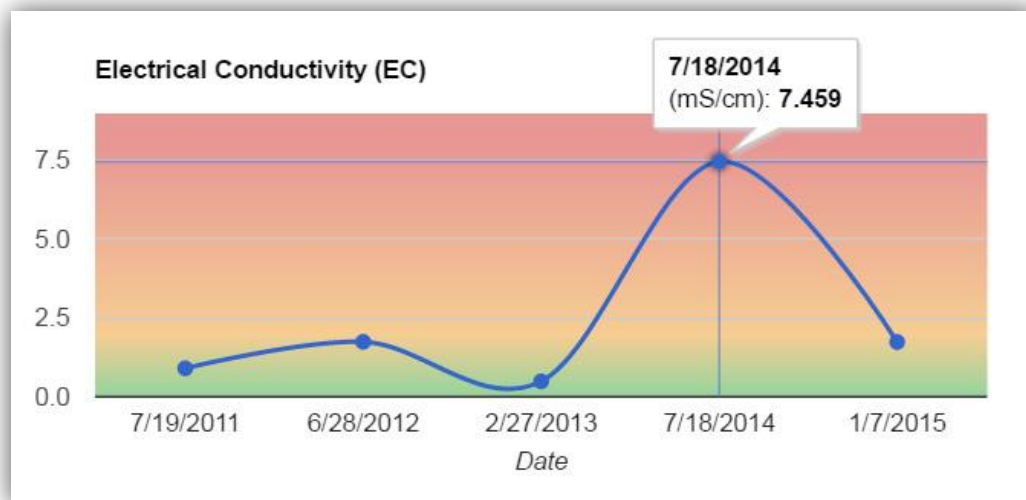

Figure 15. Temporal monitoring of EC soil indicator for a specific field
In Figure 15 above, the electrical conductivity (EC) parameter for a specific field is demonstrated as an example. Five measurement values are available (for different measurement dates), where only one of them being on the high-risk zone. The exact measurement date and value is indicated when the user clicks (or hovers) on a specific point in the respective chart.